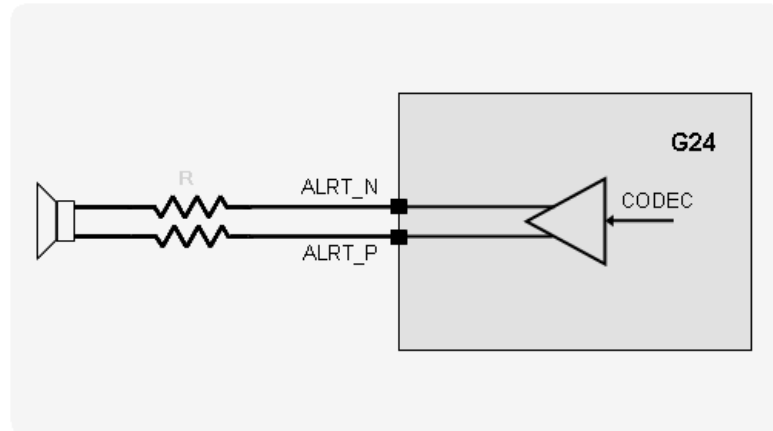

Figure 2-21: Differential Loudspeaker Circuit
Figure 2-21 shows the alert loudspeaker circuit and Table 2-9 gives the loudspeaker specifications.
**Important:** For safety regulations it is important to place series resistors on the alert output lines, as illustrated in Figure 2-21. The resistors value should be  $R = 0\Omega$  at the design stage, but may be changed to a different value during audio safety testing, in case that alert level limitation is required.